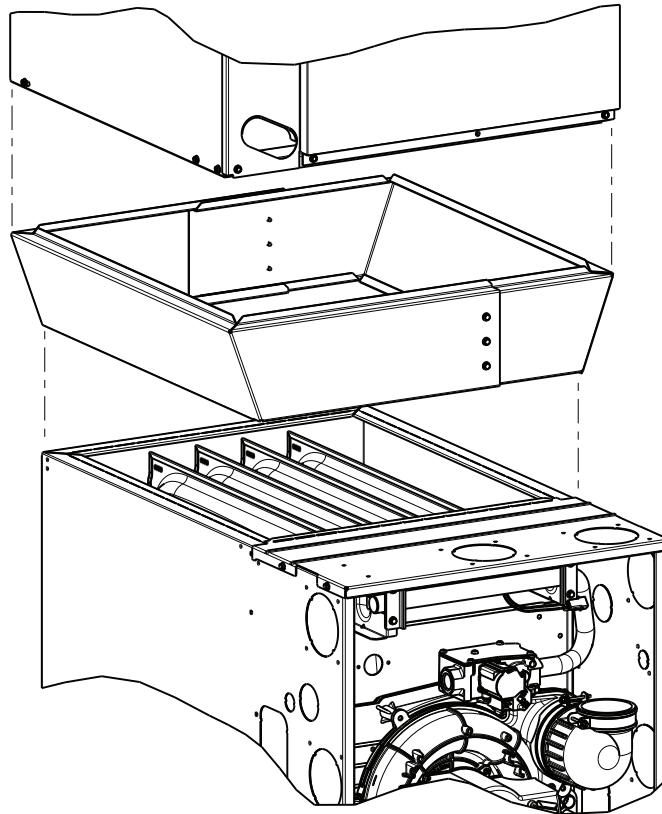
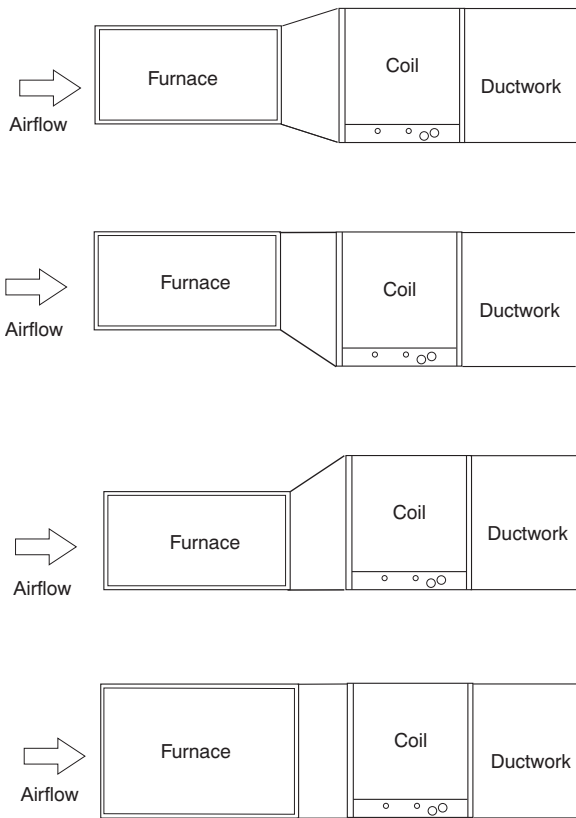

Fig. 4 - Adapter Attachment to Furnace
Fig. 5 - Horizontal-Right Installation
7. Attach the adapter to the furnace as shown in Figure 4. For horizontal installations, refer to the indoor coil orientations and attachment methods shown in Fig 5 and 6. Install the indoor coil in the required orientation for proper airflow through the indoor coil. Refer to the indoor coil installation instructions.